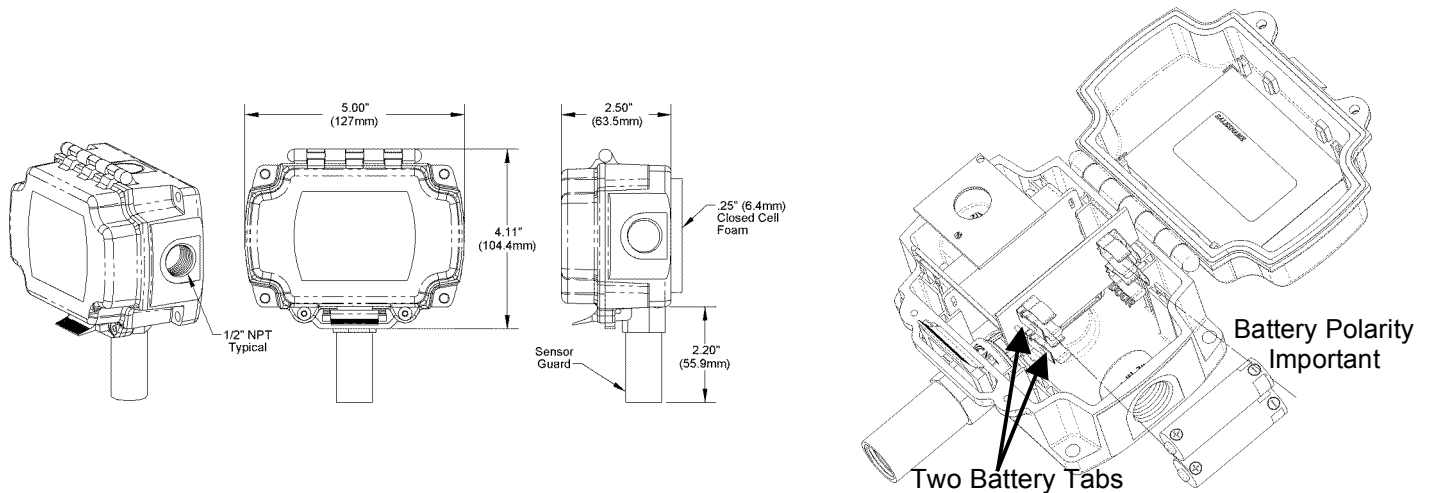
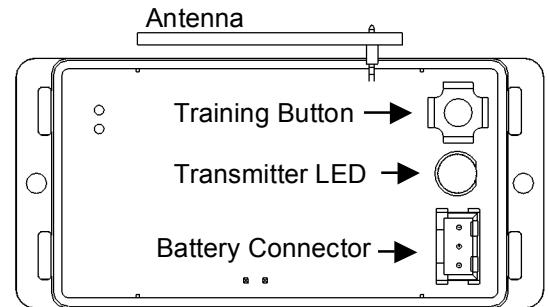

Figure 1: Wireless Outdoor Temperature Transmitter
Figure 4: Transmitter Module
3. Open the cover of the transmitter and remove the battery tabs or install the batteries, observe polarity (see Fig 1). The transmitter LED, next to the Transmitter Training Button in Figure 4, should flash approximately once every 10 seconds. (The flash is very quick.)